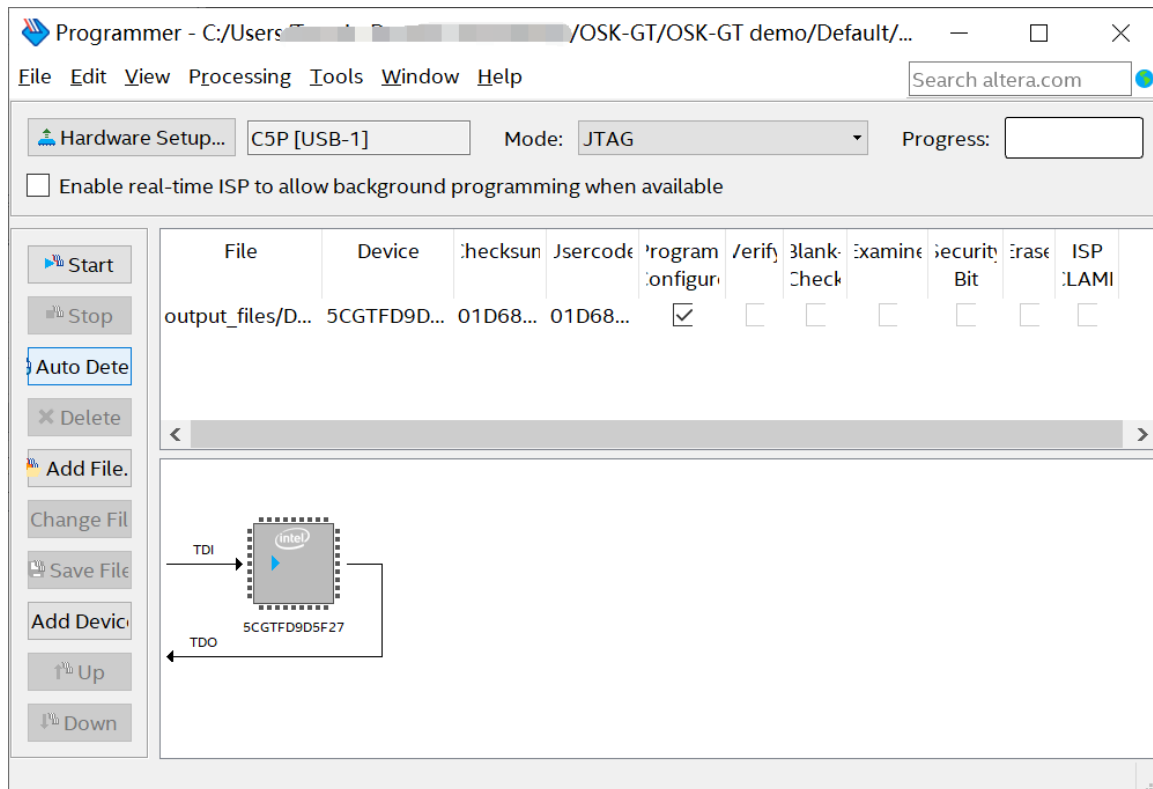

Figure 6-6 Quartus Prime Programmer detects the FPGA device
2. Click **Auto Detect** and then select the correct device. The FPGA device should be detected, as shown in **Figure 6-6**.
3. Double click the red rectangle region, as shown in **Figure 6-6** and the **Select New Programming File page** will appear. Select the .jic file to be programmed.
2. Click **Auto Detect**, and then select correct device, FPGA device will be detected, as shown in **Figure 6-6**.
3. Double click the red rectangle region shown in **Figure 6-6**, the **Select New Programming File** page will appear. Select the correct .jic file.